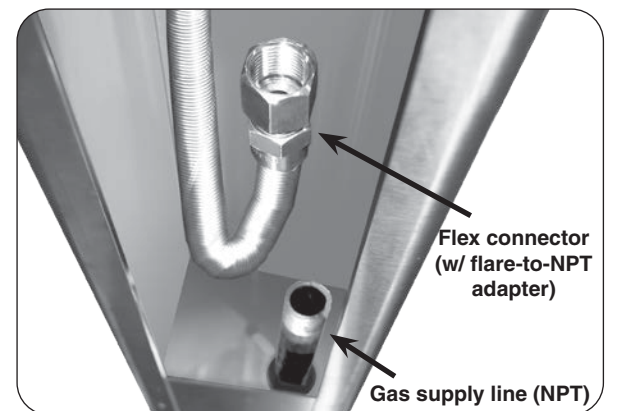

Fig. 20-3 Post interior detail
2. Verify that the gas supply line fits through the gas line clearance hole in the bottom of the post (see Fig. 20-3). The clearance hole is the larger of the two holes in the bottom of the post and is off center.